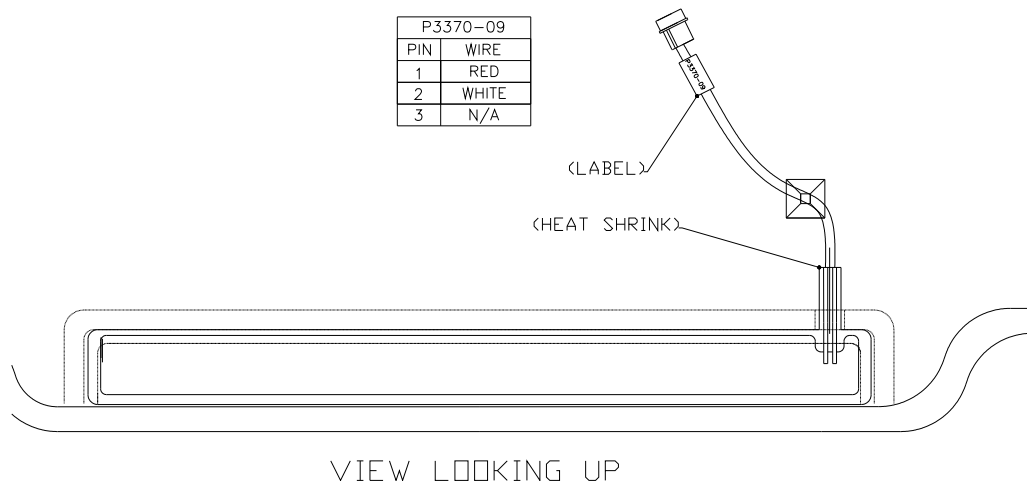

Figure 2: Installation of Replacement EL Flood light
- 10.20 Install contacts, connector, label and heat shrink as shown in Figure 2.
- 10.21 Bond Cable Tie base to underside of Instrument panel cover using DP110 adhesive, or equivalent. Secure with cable tie. See Figure 2 for approximate bonding location.